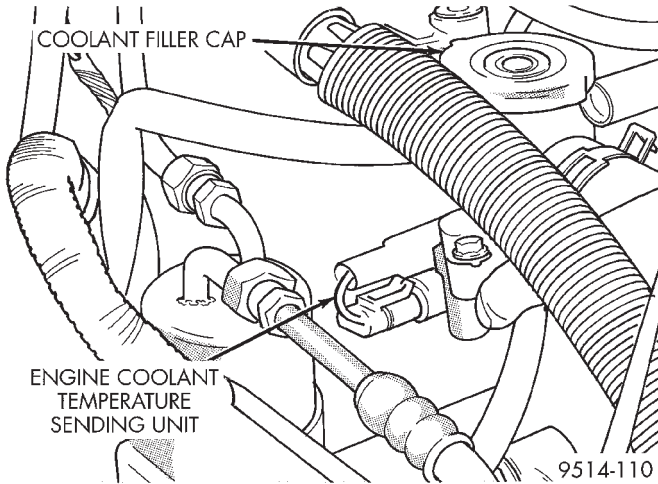
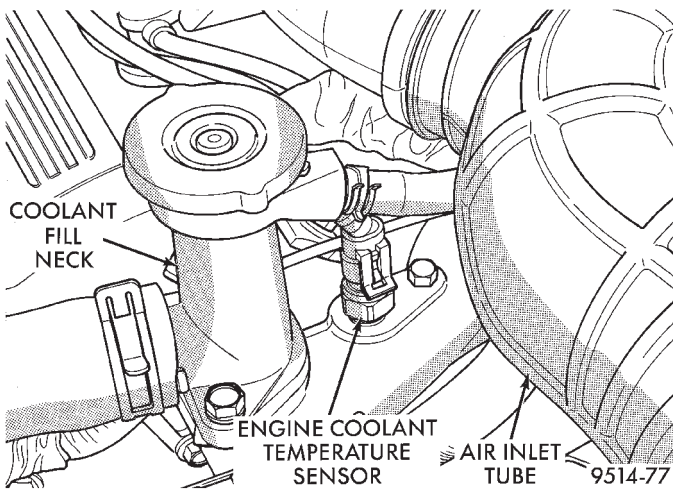

Fig. 46 Engine Coolant Temperature Sensor—2.4L Engine
Fig. 47 Engine Coolant Temperature Sensor—2.5L Engine
(15) Check electrical connections at the engine coolant temperature sensor (Fig. 46) or (Fig. 47).